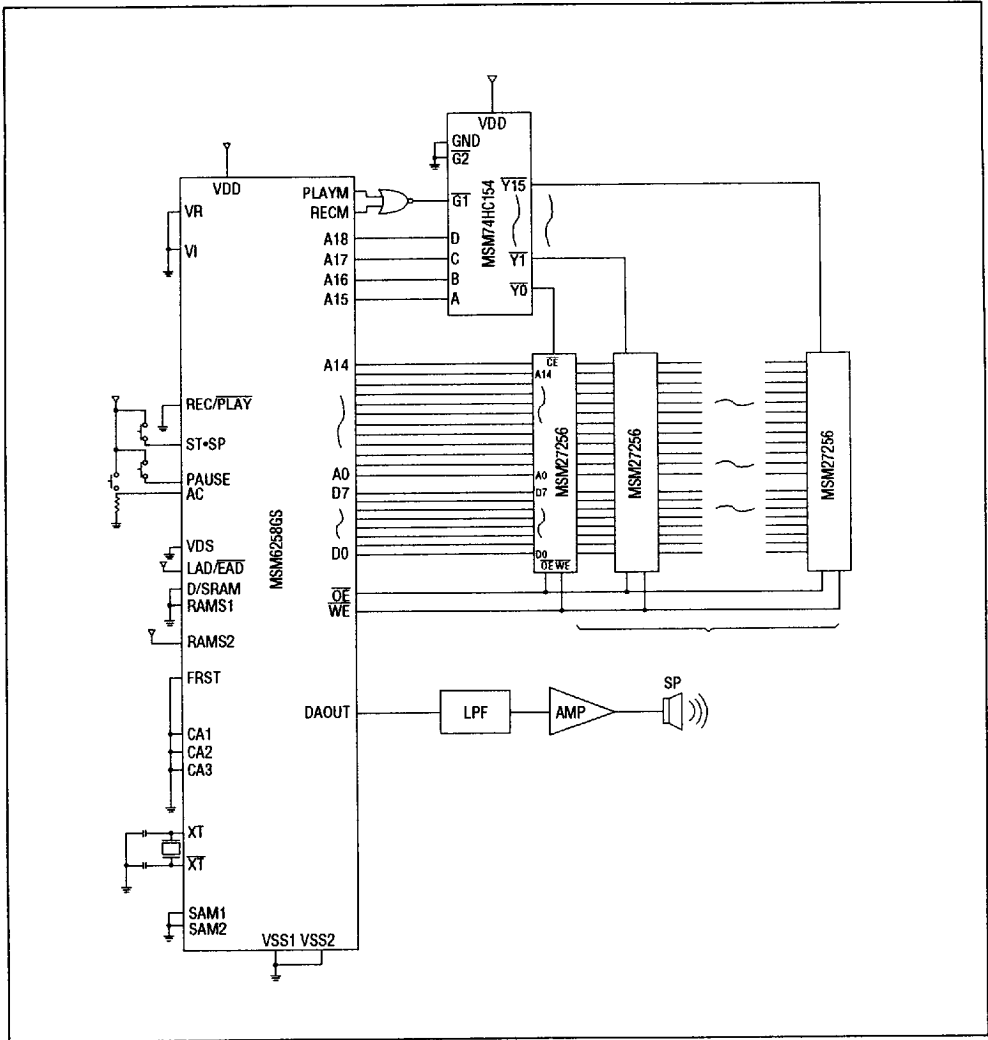

Figure 28 Application Note for 256K EPROM (Use 16 pcs)
- Figure 28 shows an example of interface with 256K EPROM.